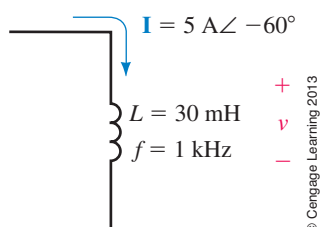

FIGURE 18-82
- For the component shown in Figure 18-82: